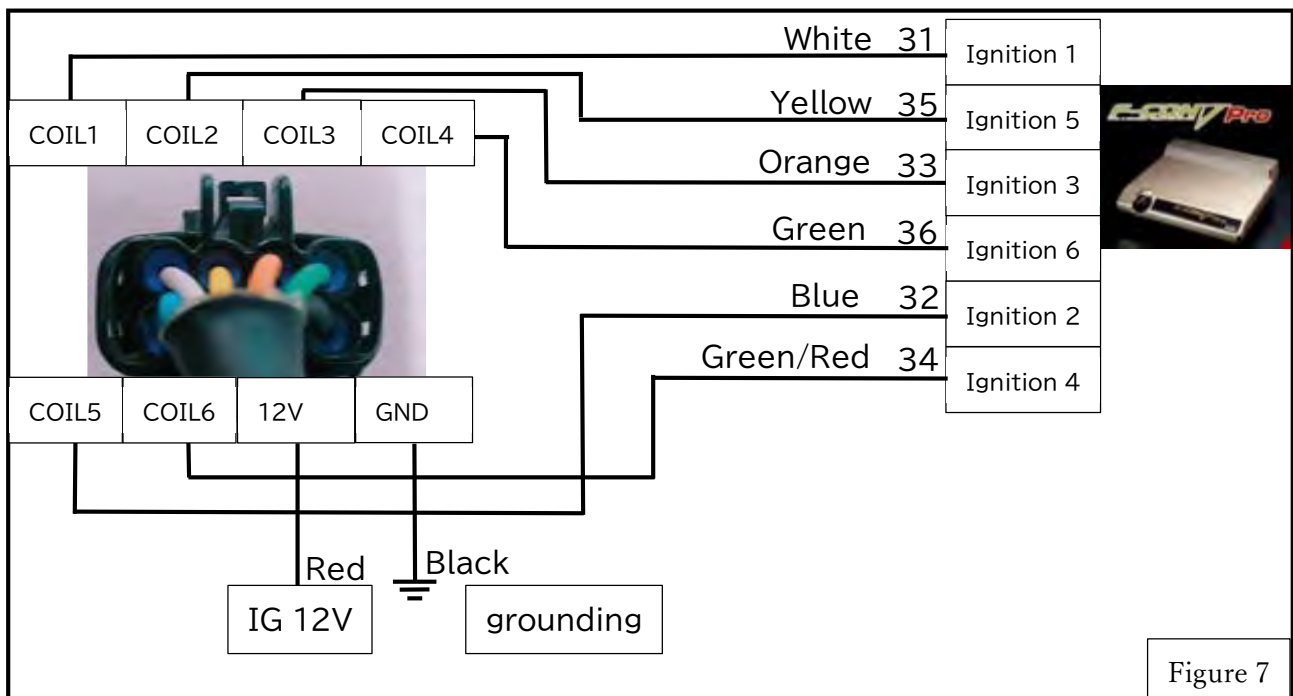

Figure 7
(10) Please wire the after-sales ECU / vehicle referring to the figure below. Refer to the following for wiring the harness on the ECU side to V Pro. (Figure 7)